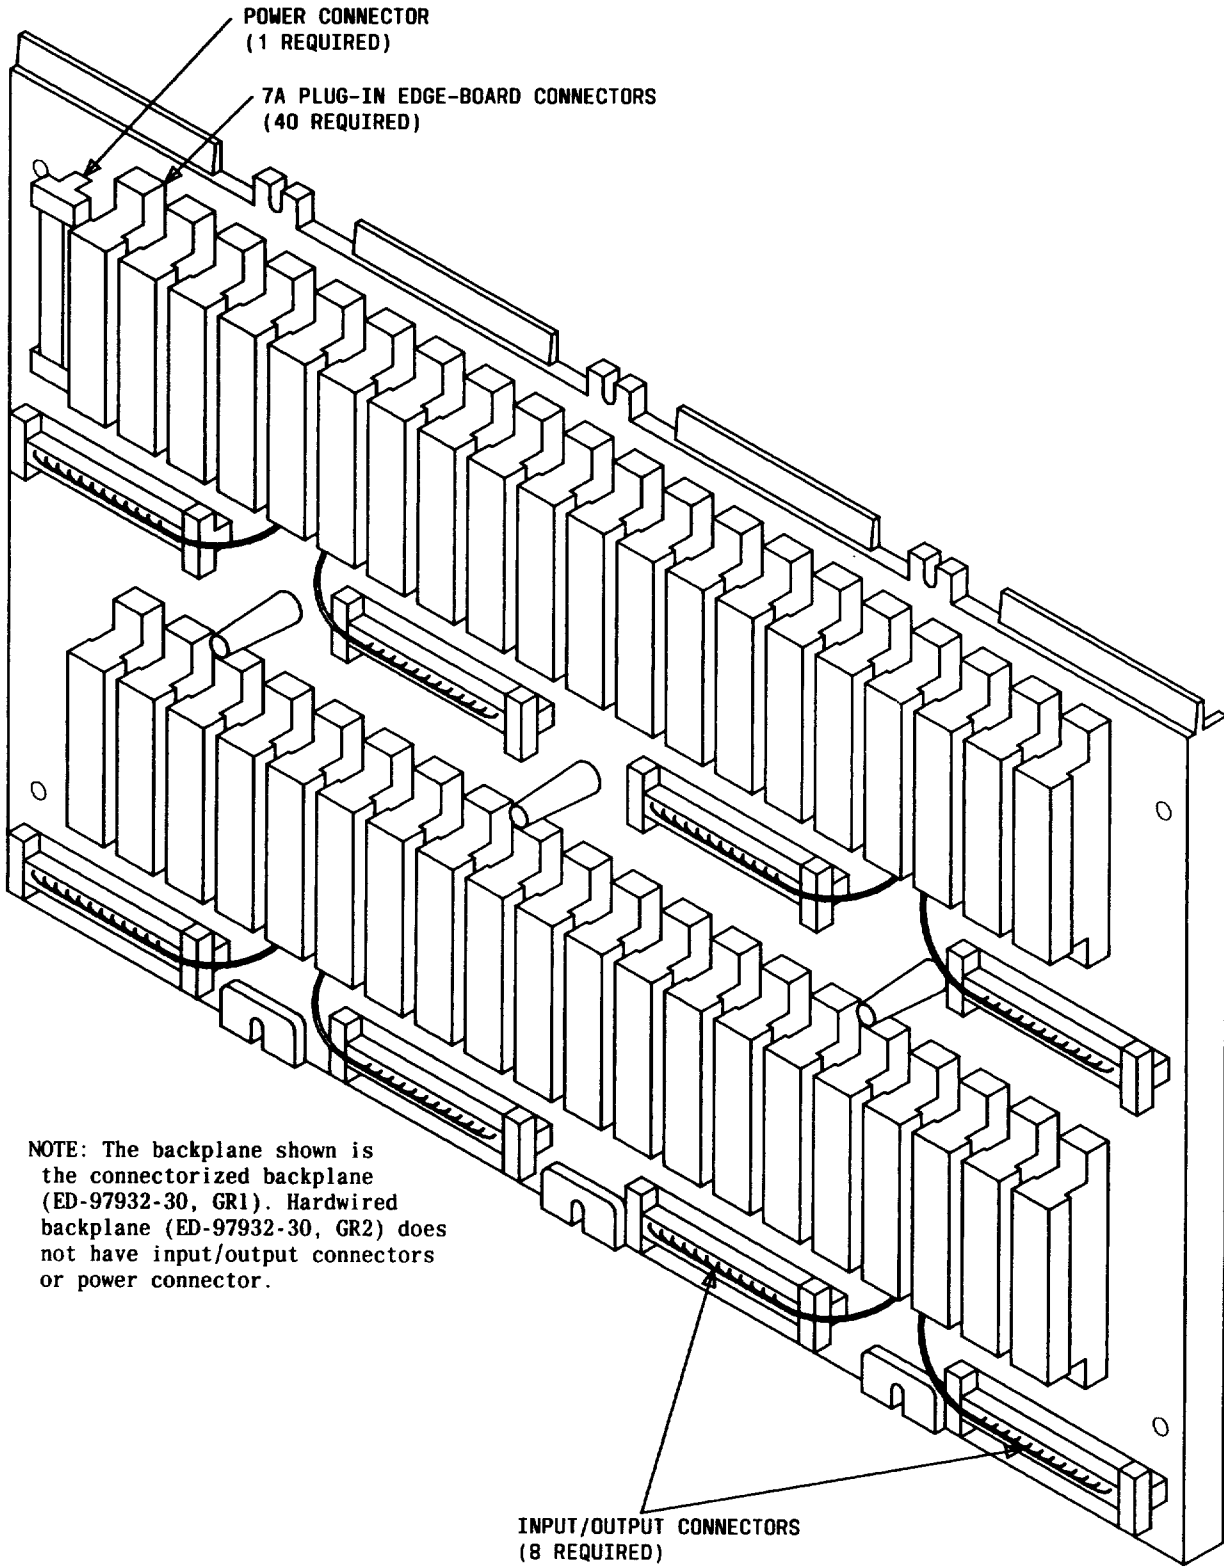

Fig. 2—Mini-REG Backplane (Note)
2.05 The backplane is the rear section of the shelf assembly that has been equipped with edge-board connectors for plug-ins. Figure 2 shows the connectorized backplane assembly (ED-97932-30, GR1) which is rated Mfr Disc. The standard hardwired backplane assembly (ED-97932-30, GR2) looks like the connectorized backplane, except it does not have the input/output connectors or the power connector as shown in Fig. 2. A backplane will accommodate two mounting shelves; the assembly occupies 13 vertical inches of bay space. Front covers to enclose the 7A REG plug-ins are furnished with the backplanes.